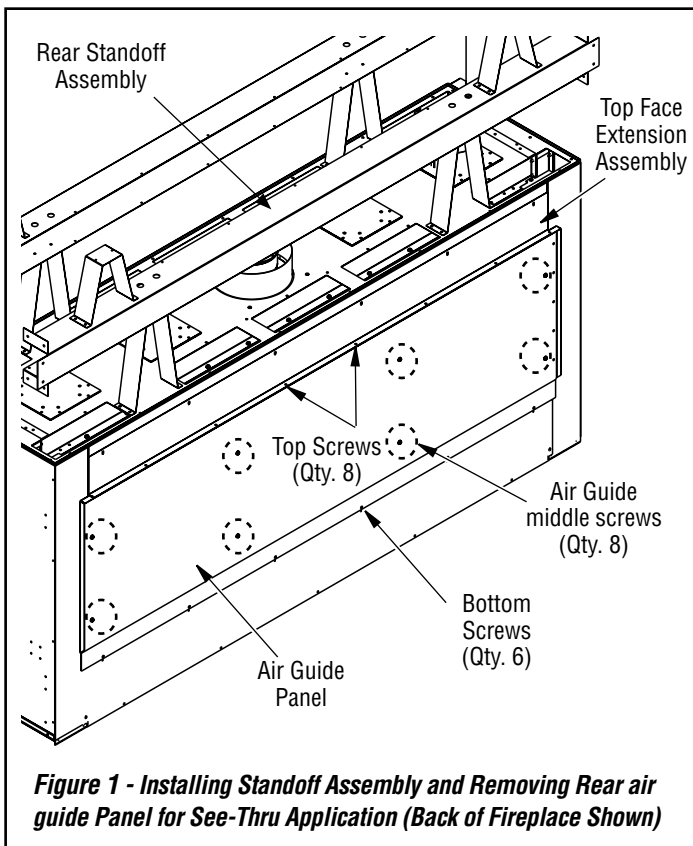

Figure 1 - Installing Standoff Assembly and Removing Rear air guide Panel for See-Thru Application (Back of Fireplace Shown)
1. Install rear standoff assembly as shown in **Figure 1**, using #8 screws.
2. In the rear of the fireplace, locate screws at top and bottom of rear air guide panel and remove as shown in **Figure 1**. Discard air guide panel after removal.